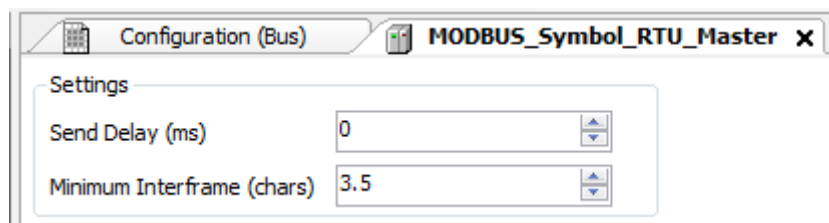

Figure 62: MODBUS RTU Master Configuration Screen
- Configure the general parameters of the MODBUS Master protocol, like: transmission delay times and minimum inter-frame as in Figure 62.